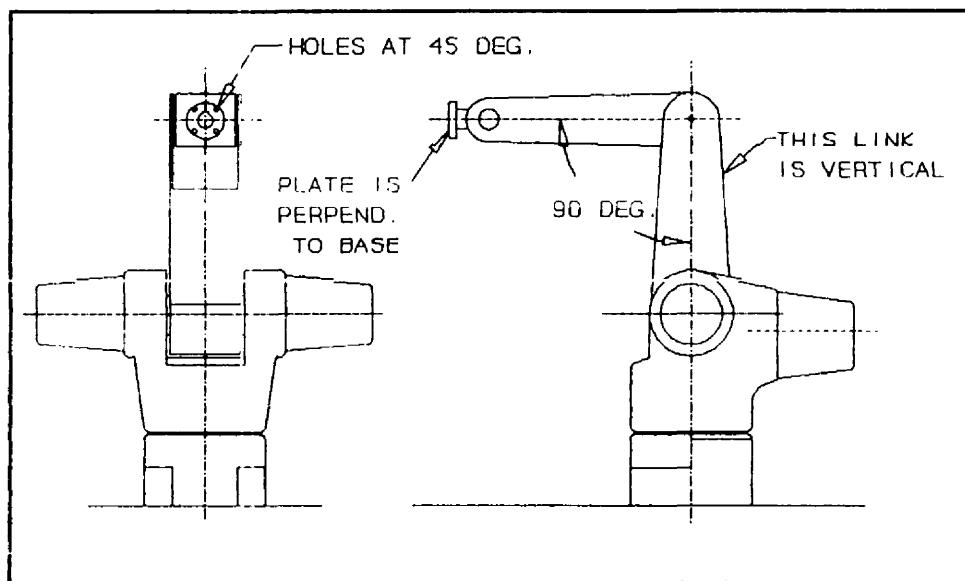

FIGURE 4-1 Arm at READY Position
This command moves arm to READY position shown in FIGURE 4-1 below.
1. Move arm to READY position shown in FIGURE 4-1.